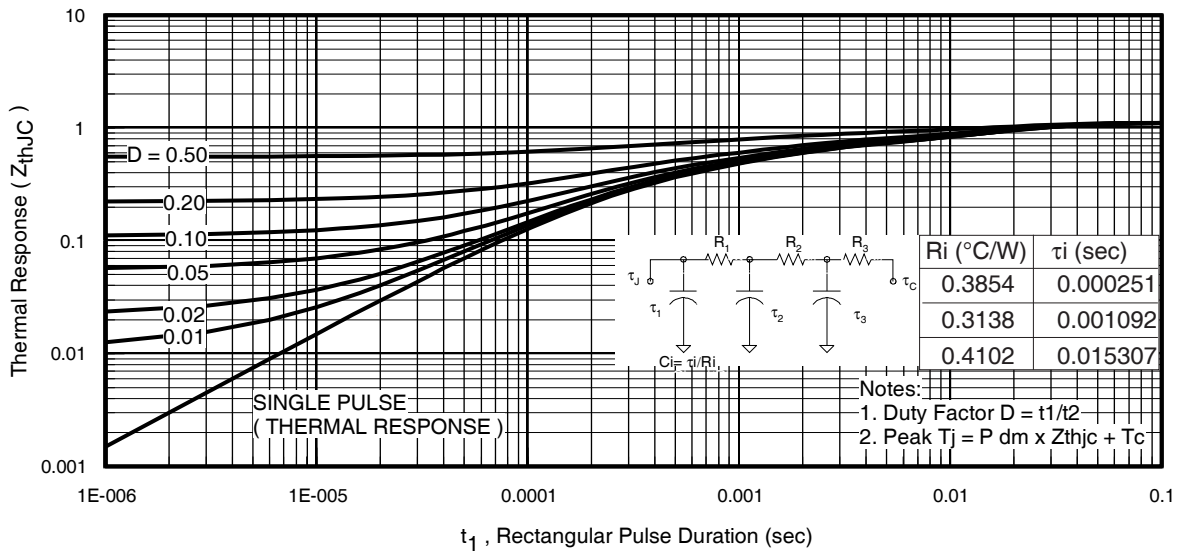
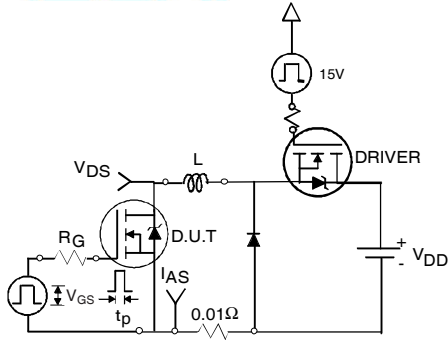

Fig 11. Maximum Effective Transient Thermal Impedance, Junction-to-Case
Fig 12a. Unclamped Inductive Test Circuit
- ① Repetitive rating; pulse width limited by max. junction temperature. (See fig. 11).
- ② Limited by T_{Jmax} , starting $T_J = 25^\circ\text{C}$, $L = 0.13\text{mH}$, $R_G = 25\Omega$, $I_{AS} = 42A$, $V_{GS} = 10V$. Part not recommended for use above this value.
- ③ Pulse width $\leq 1.0\text{ms}$; duty cycle $\leq 2\%$.
- ④ $C_{oss\ eff.}$ is a fixed capacitance that gives the same charging time as C_{oss} while V_{DS} is rising from 0 to 80% V_{DSS} .
- ⑤ Limited by T_{Jmax} , see Fig.12a, 12b, 15, 16 for typical repetitive avalanche performance.
- ⑥ This value determined from sample failure population. 100% tested to this value in production.
- ⑦ When mounted on 1" square PCB (FR-4 or G-10 Material). For recommended footprint and soldering techniques refer to application note #AN-994
- ⑧ R_θ is measured at T_J approximately 90°C
3. Equation below based on circuit and waveforms shown in Figures 12a, 12b.
$Z_{thJC}(D, t_{av})$ = Transient thermal resistance, see figure 11)